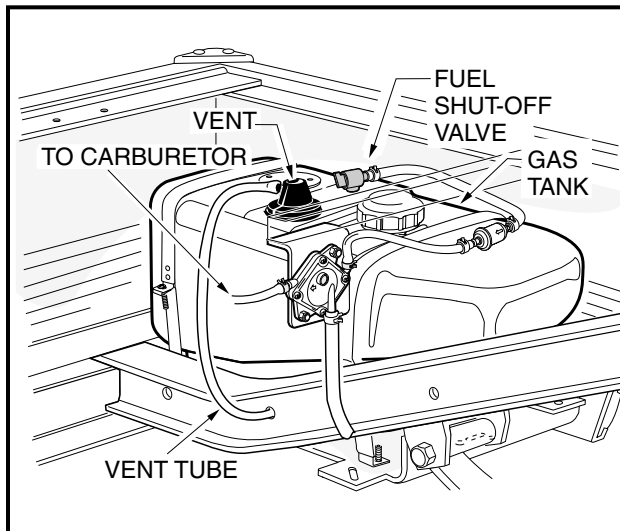

Figure 3-2 Gasoline Tank
9. Disconnect vent tube from fuel tank vent (**Figure 3-2, Page 3-4**).
- 3.2. Connect vent tube to fuel tank vent (**Figure 3-2, Page 3-4**).